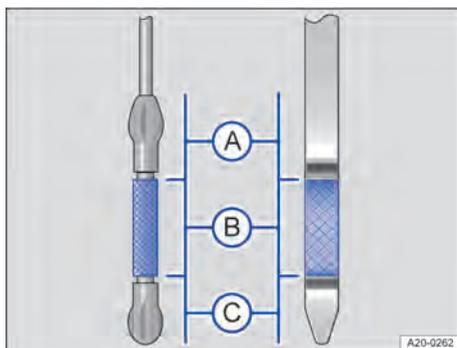

Fig. 187 Oil dipsticks with engine oil level markings (variants).
7. Pull out the oil dipstick again and read the engine oil level on the dipstick as follows → Fig. 187:
13. After filling, the engine oil level should be in the middle of the area → Fig. 187 **B**. The engine oil level must not be in area → Fig. 187 **A** → **B**.
14. If too much engine oil has been added unintentionally and the engine oil level is in area → Fig. 187 **A**, do not start the engine. Seek expert assistance.
- If the engine oil level is in area → Fig. 187 **A**, do not start the engine. Seek expert assistance.